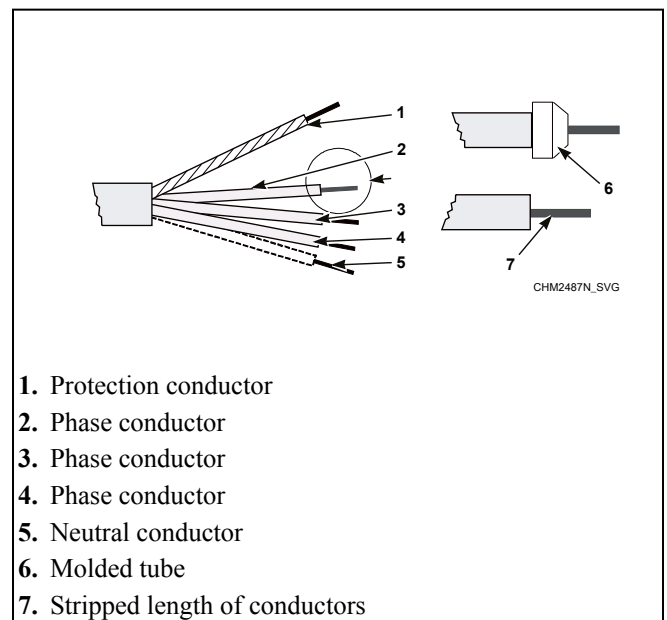

Figure 39
- Strip the conductor ends. Refer to *Figure 39*. The protection conductor must be longer so it can be routed to the machine without tension.